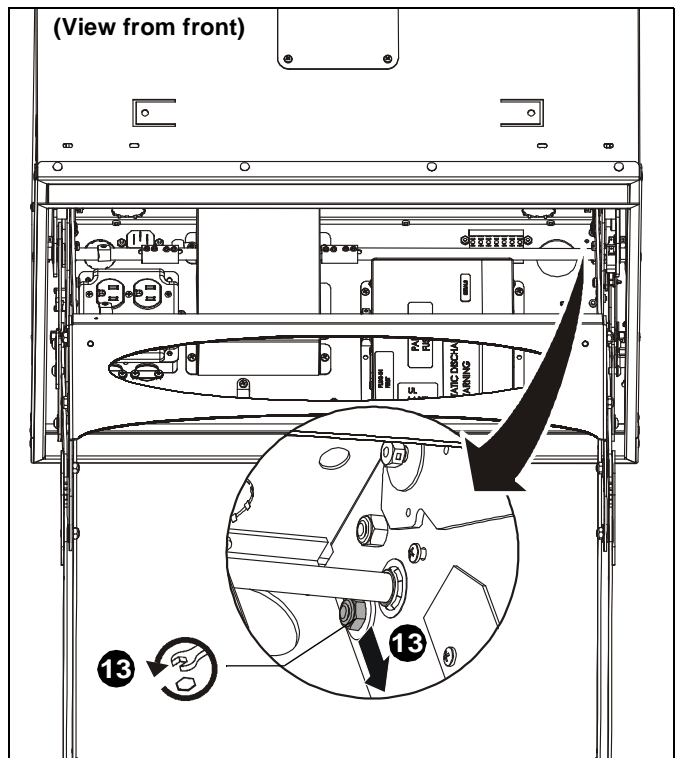

Figure 7
13. Loosen rear nut and move lower in slot to loosen chain tensioner in preparation for removal of lift weldment assembly. (See Figure 7)